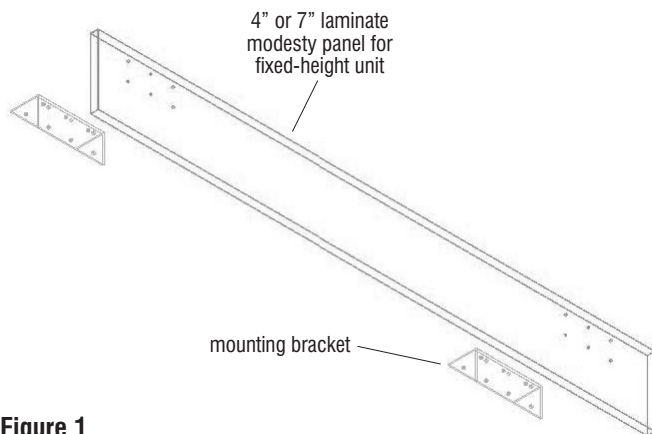

Figure 1
1. Align the mounting holes of the bracket with the pre-drilled holes on the back of the panel and secure using three #10 x $\frac{5}{8}$ " Phillips pan head screws per bracket. Repeat this step to secure the remaining mounting brackets to the modesty panel (Figure 1).